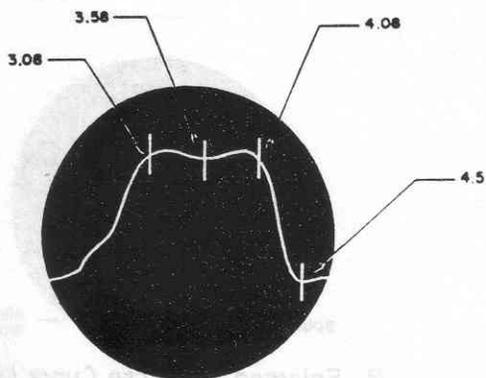

Figure 4.9 (Repeated) Chroma Bandpass Response Curve
6.1.13 Switch the PROBES switch to the DEMOD position. The chroma bandpass response curve should now be observed on the screen with the markers as shown in Figure 4.9 (Repeated). Depending on the output polarity of the video detector diode, the polarity of the chroma response obtained may be inverted with respect to the i-f response curve. If it is wished to view the curve with opposite polarity, place the VERTICAL switch in its alternate position.